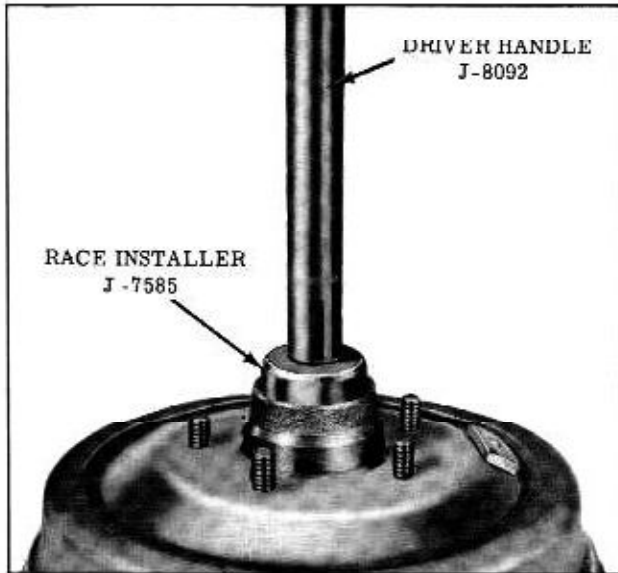

Fig. 5-3 Installing Outer Bearing Race
1. If the outer races were removed, drive or press the races into the hub as shown in Fig. 5-3 and 5-4.